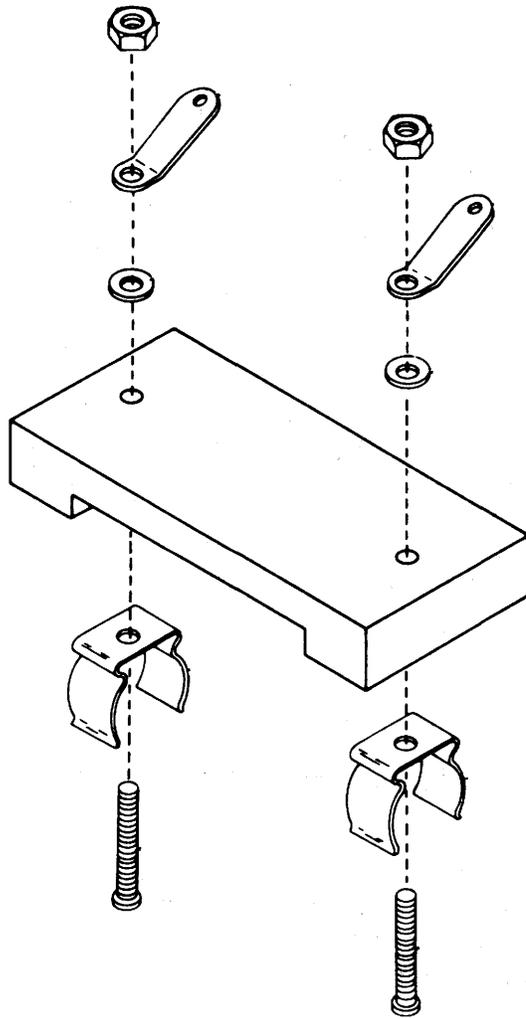

Figure 6-57. Exciter Lamp Holder Assembly.
4. Replace exciter lamp (see figure 6-57).
- c. Install new exciter lamp, and check lamp adjustment and voltage in accordance with paragraph 6-19 and figure 6-57.